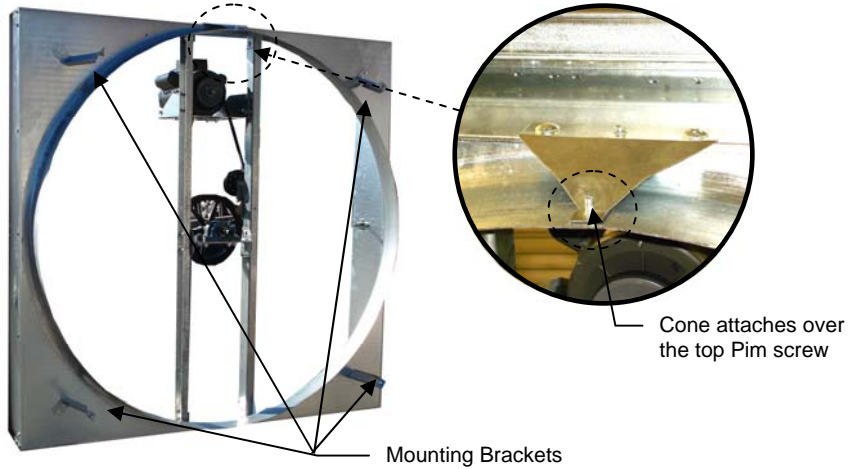

Figure 6: Install Cone Mounting Brackets
- 14. Mount cone to fan. Bend the mounting brackets back slightly to help clear the area of the cone edges. Hang the centered slot in the small end of the cone over the Pim screw mounted on the Fan housing. See Figure 6. Screw can be fastened with 1/4"x20 lock nut, if necessary (not included).